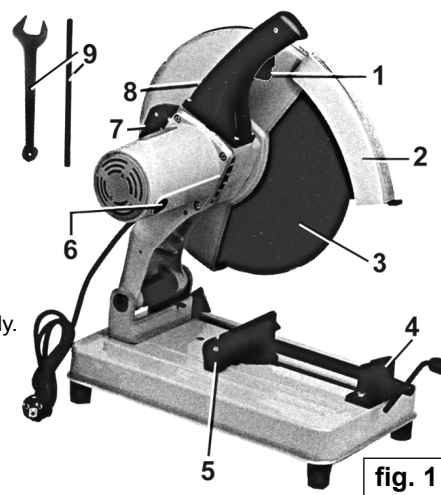

fig. 1
- 1.1.6. **Important:** Ensure that the voltage marked on the appliance matches the power supply to be used and that the plug is fitted with the correct fuse - see fuse rating, fig. 1.
**MG214/230V - fig. 1**